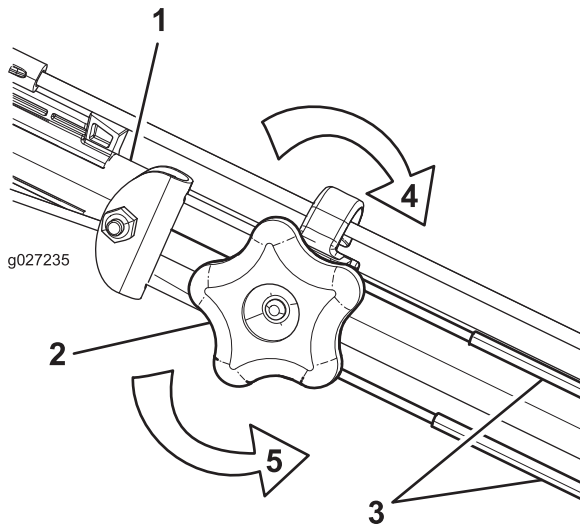

Figure 36
1. Turn the adjustment knob counterclockwise to loosen the cable adjustment (Figure 36).
2. Adjust the tension on the cables (Figure 36) by pulling them back or pushing them forward and then holding them in that position.